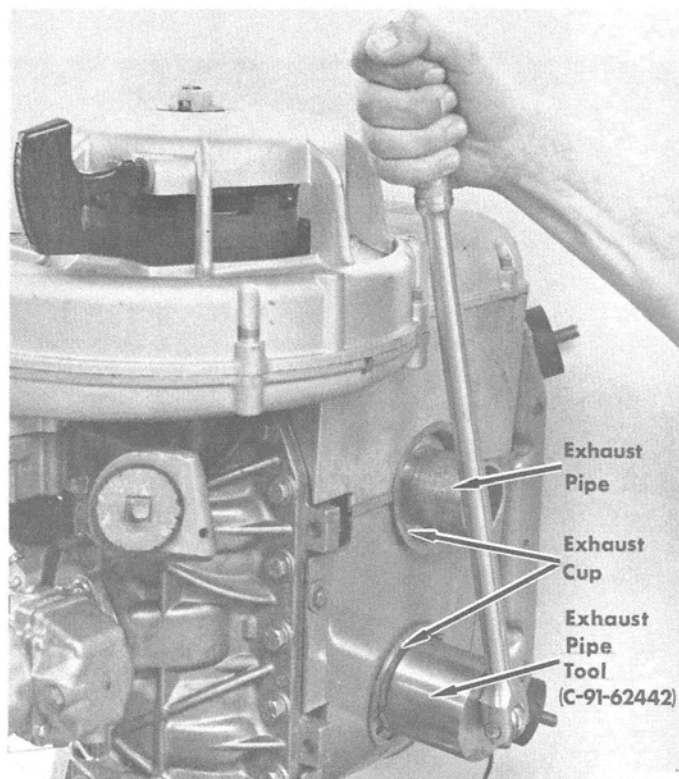

Figure 2. Removing Exhaust Pipes
3. Remove exhaust pipes from engine with Exhaust Pipe Tool (C-91-62442). (Figure 2) Remove exhaust cups from engine.